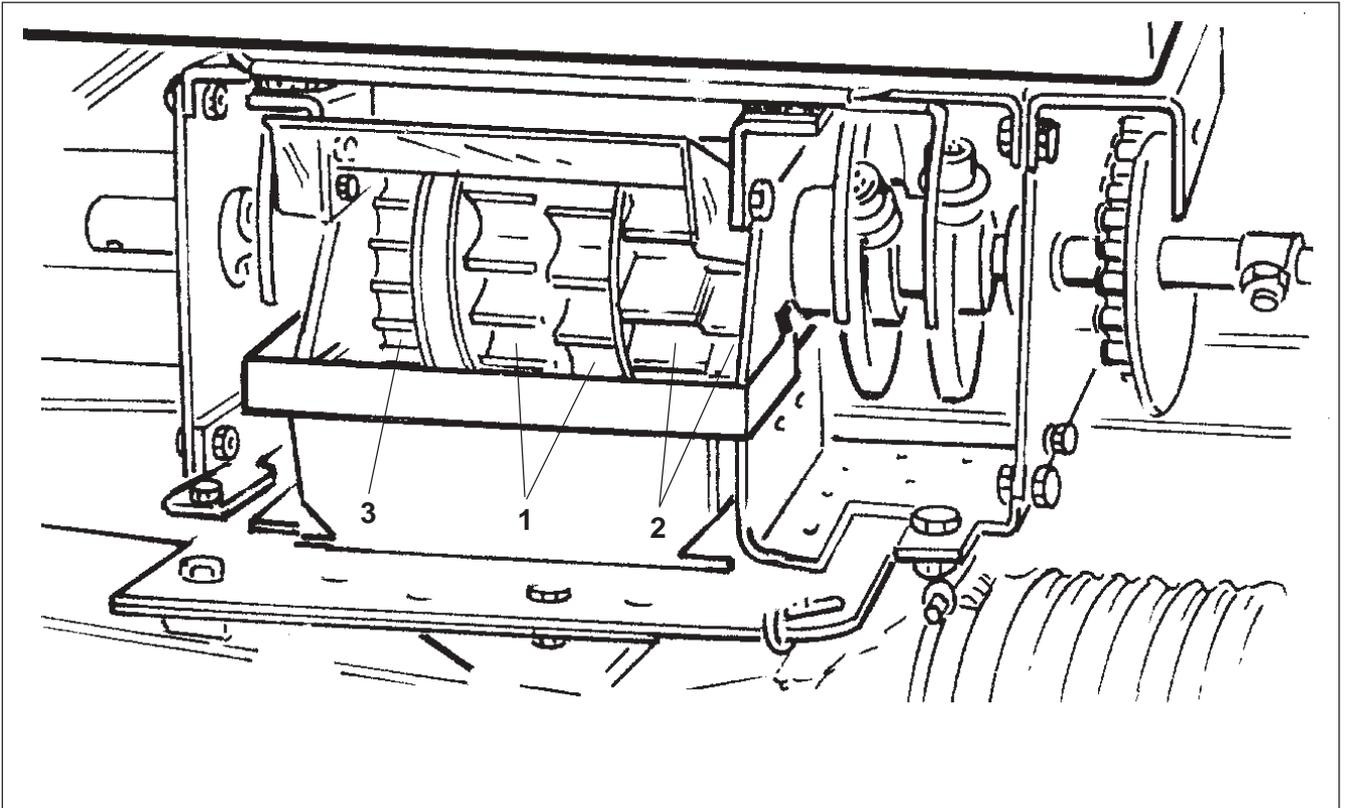

Fig. 20.3
- one white coloured main metering wheel (Fig. 20.3/1)
- one orange coloured main metering wheel (Fig. 20.3/2) and